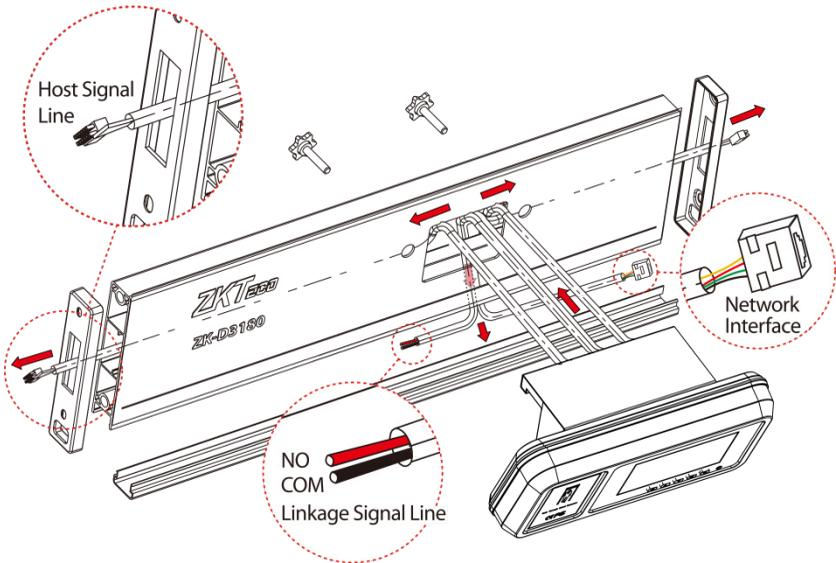

Figure 3-5
Step 5: Pass the Host Signal Line, the Linkage Signal Line and the Network Interface Line through the opening of the front beam, as shown in the figure 3-5 below.